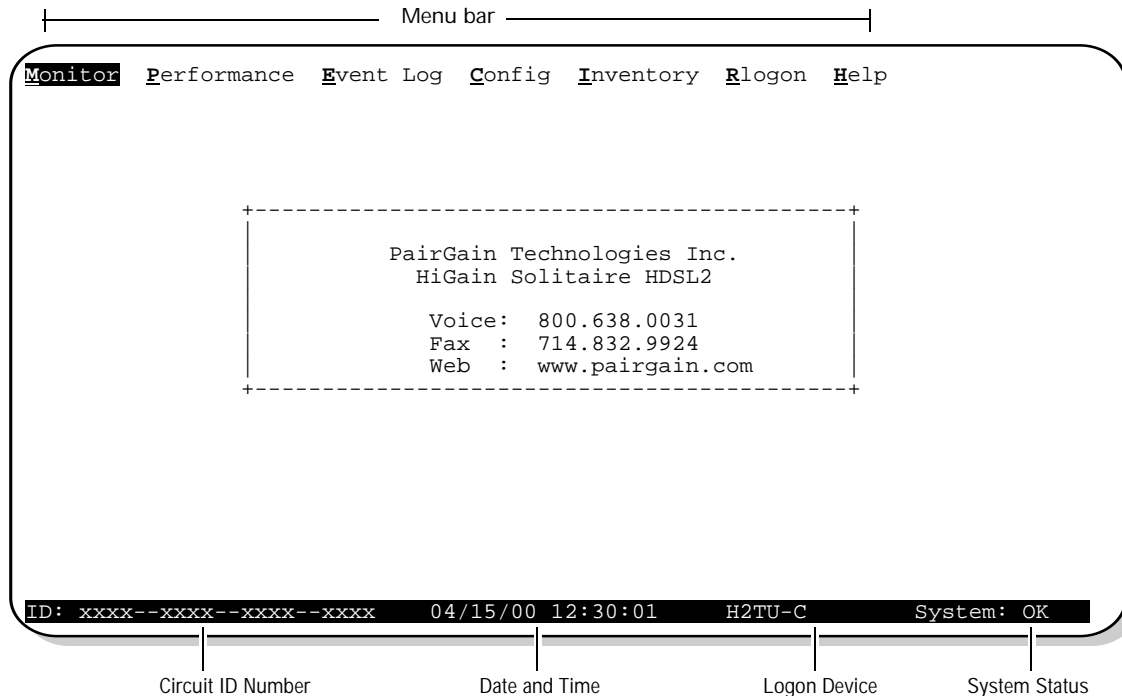

Figure 4. Logon Screen
- Use a maintenance terminal (VT100 terminal or a PC running terminal emulation software) connected to the H2TU-C craft port (or to an HMU craft port) to access the HiGain HDSL2 maintenance screens (Figure 4 on page 14). This gives you full access to all H2TU-C status, history, inventory, and provisioning screens.
To select a menu from the HiGain HDSL2 logon screen (Figure 4 on page 14), do one of the following: